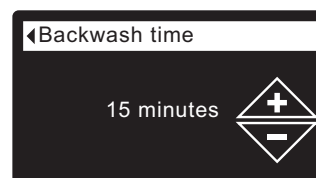

FIG. 76
7. Press the SELECT (O) button to display the desired cycle time screen (See Figures 76 & 77).
- 8a. Backwash time:** Press the UP (▲) or DOWN (▼) buttons to change the backwash time. Hold the button down to rapidly advance. The backwash time can be set from 1 to 99 minutes* (See Figure 76).